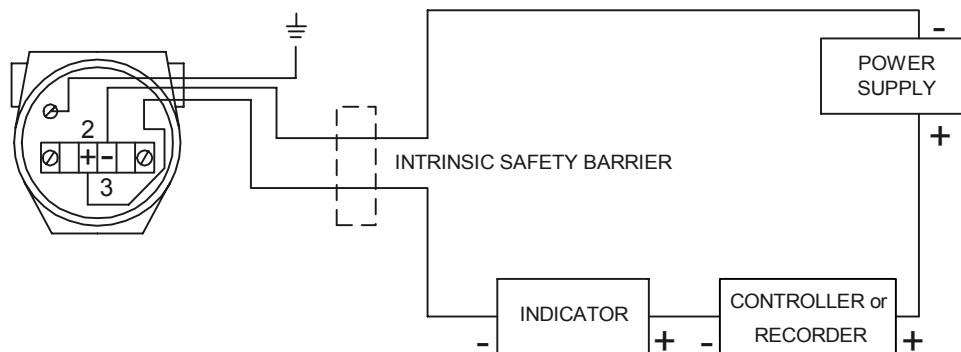

Figure 13 Typical Wiring Connections
- ✓ Insert the power supply cable through one of the two 1/2" NPT openings. In the case of reversed polarity the instrument will not be damaged. See Figure 13 for a typical connection.